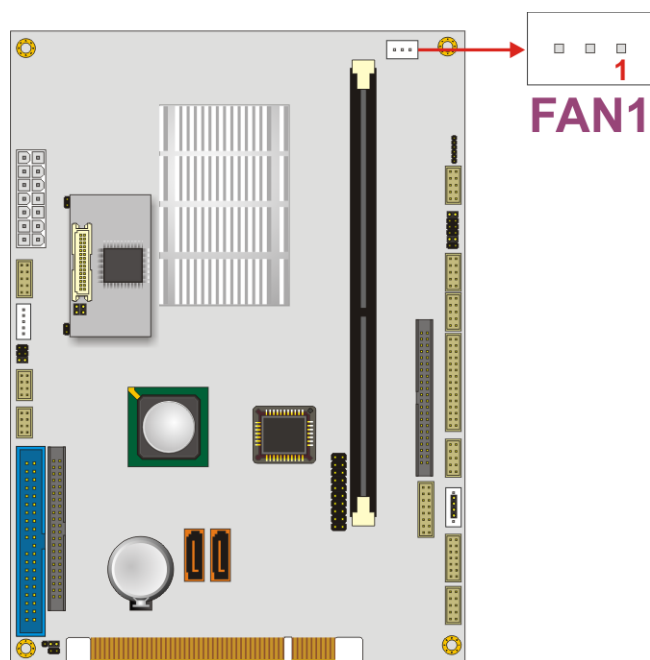

Figure 3-7: Fan Connector Location
- CN Location:** See Figure 3-7